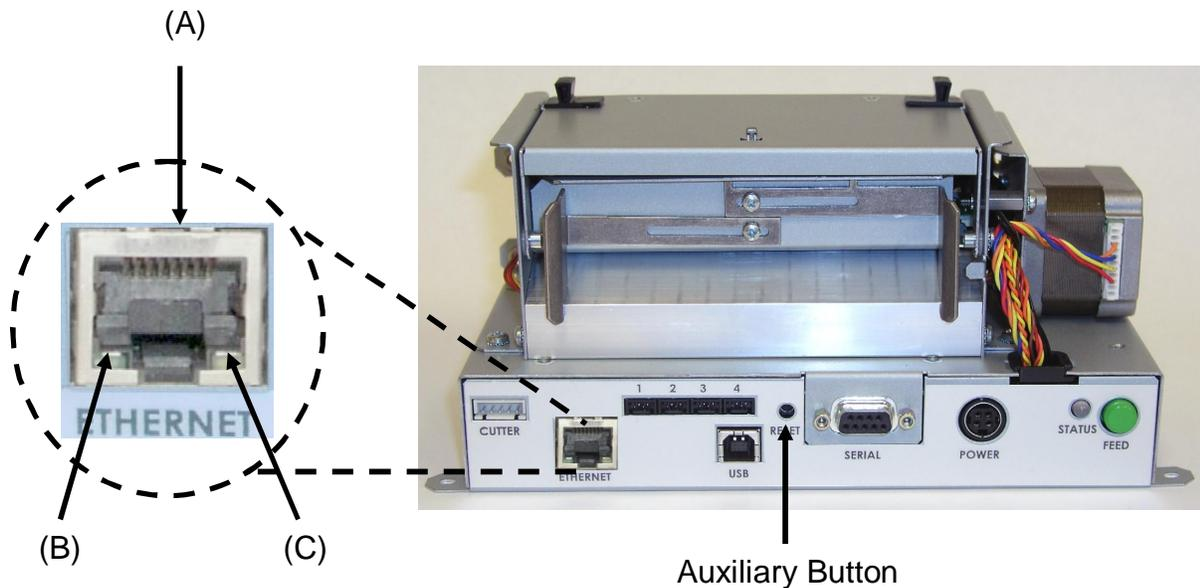

Figure 15 Ethernet Port (426M)
3. Release the print head (Figure 15) by pushing the *Head Release Levers* towards the center of the printer and insert the thermal card into the front of the printer between the print head and the drive roller.
3. Using the two *Head Release Levers* (See Figure 15), unlatch and raise the print head.
3. Using the two *Head Release Levers* (Figure 15), unlatch and raise the print head.